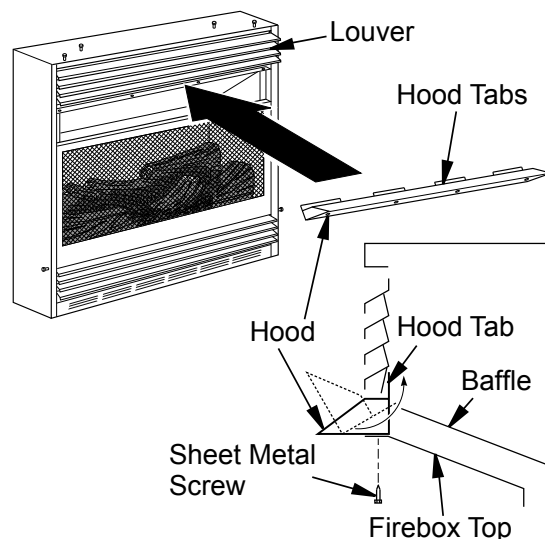

Figure 3 - Assembling Hood
2. Rotate hood as shown in *Figure 3*. Make sure hood tabs point toward fireplace.
3. Insert hood tabs between baffle and louvers (see *Figure 3*).
4. Gently rotate hood to upright position. Make sure hood tabs are behind louvers and hood is resting on firebox top (see *Figure 3*).
6. Insert screws as shown in *Figure 3*. Tighten screws firmly.